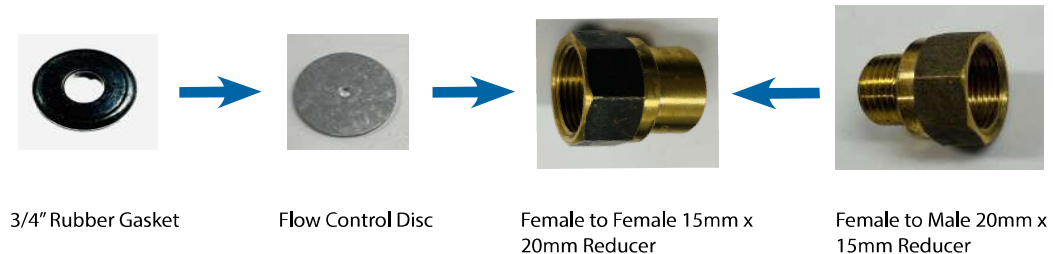

Fig. 3.18A Flow Control Disc installation
Insert the flow control disc and the rubber gasket into the Female-Female reducer and then connect the Female-Male reducer as shown in Fig. 3.18A below.
Step 7: Connect the third male pipe nipple threaded 3/4" to the pre assembled reducers from Fig. 3.18A.